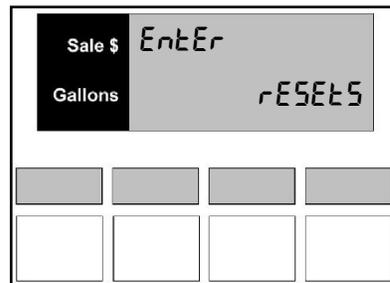

Figure 26.6 – Totals Reset
3. To reset the totals, press the 0 button. The screen will flash with the message in as shown in Figure 26.6.